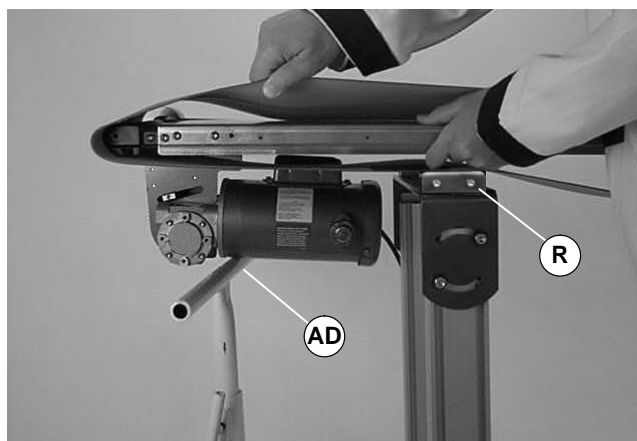

Figure 24
The weight of the gearmotor is all on one end of the conveyor which could cause it to tip off the stands when the mounting clamp plates are loosened. Be sure to provide support (AD of Figure 24) underneath the gearmotor while changing the belt.
6. Temporarily support conveyor at gearmotor mounting package (AD of Figure 24).
7. Loosen the mounting clamp plates (R of Figures 24 and 25), on both sides of the conveyor. Raise the conveyor and remove the belt.
2. Loosen the mounting clamp plates (R of Figures 24 and 25), on both sides of the conveyor. Raise the conveyor and replace the belt.
4. Tighten clamp plates screws (R) to 80 in-lb (9 Nm).